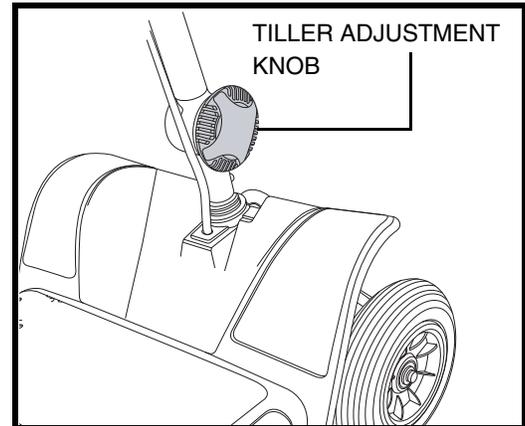

Figure 15. Tiller Adjustment Knob
1. While supporting the tiller, turn the tiller adjustment knob counterclockwise to loosen the tiller. See **figure 15**.